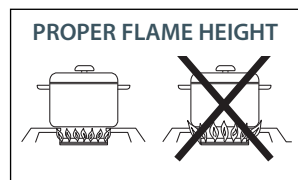

Fig. 25
- For safety reasons the flame must never extend beyond the bottom of the cooking utensil. Never allow flames to curl up the side of the pan (see Fig. 25). This will discolor or damage the utensil.